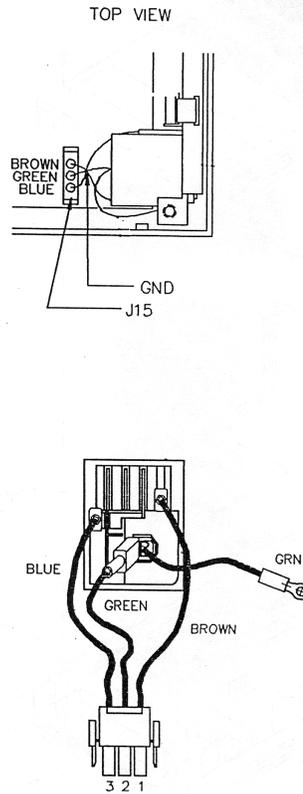

Figure 1-2 Electrical Connections
3. Plug in the main power connector P15 (Figure 1-2). Plug in the red and green wires, for a Cold Cathode model, making sure that the green wire is closest to the rear panel.